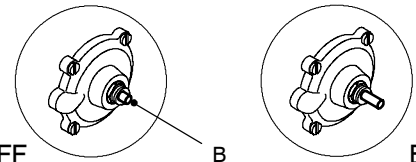

Fig. 59
- 3 Looking through the switch box verify the position of the shaft B referring to Fig. 59.